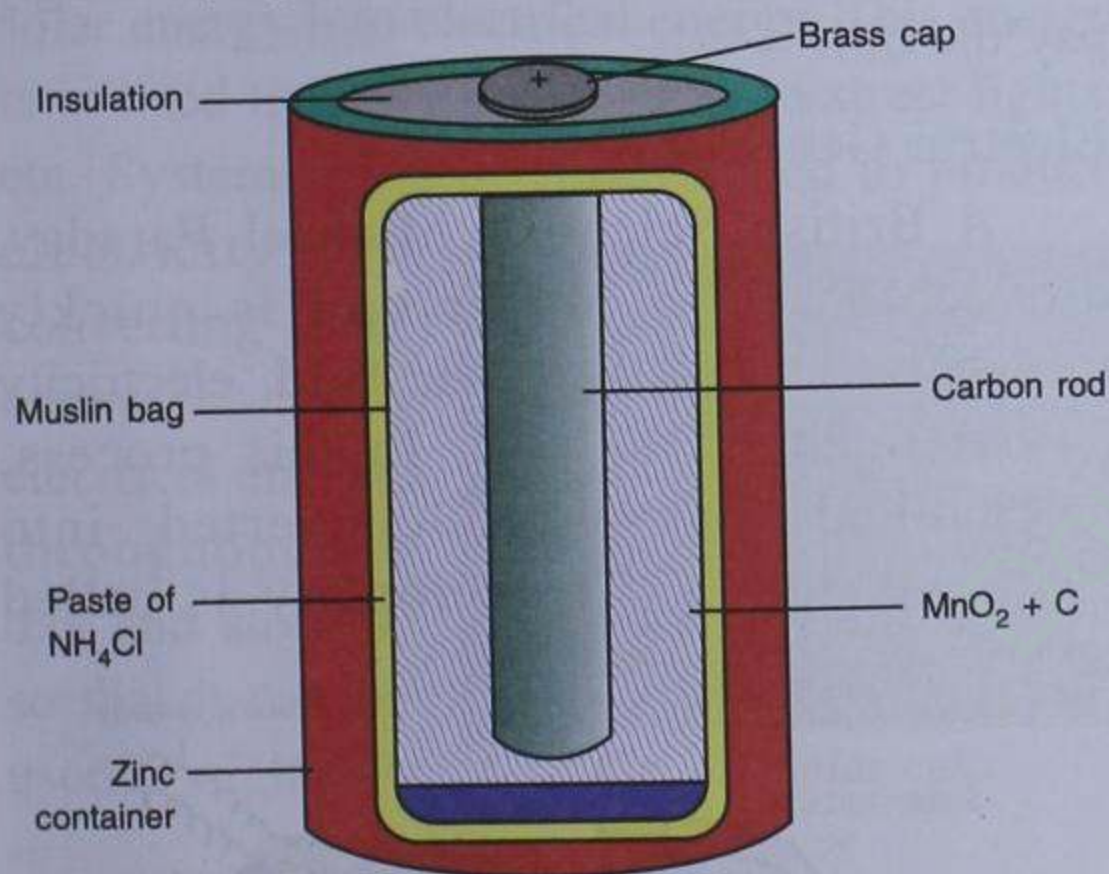

Fig. 8.2 A dry cell
A dry cell essentially consists of a zinc container, its base acting as the negative electrode. It has a carbon rod placed at the centre with a brass cap. The carbon rod acts as the positive electrode and is surrounded by a mixture of manganese dioxide (MnO_2) and charcoal (C) in a muslin bag. The electrolyte used is a moist paste of ammonium chloride (NH_4Cl), plaster of Paris, flour, etc. The outer body (except for the base) of a zinc container is insulated with a thick cardboard or plastic material (Fig. 8.2).